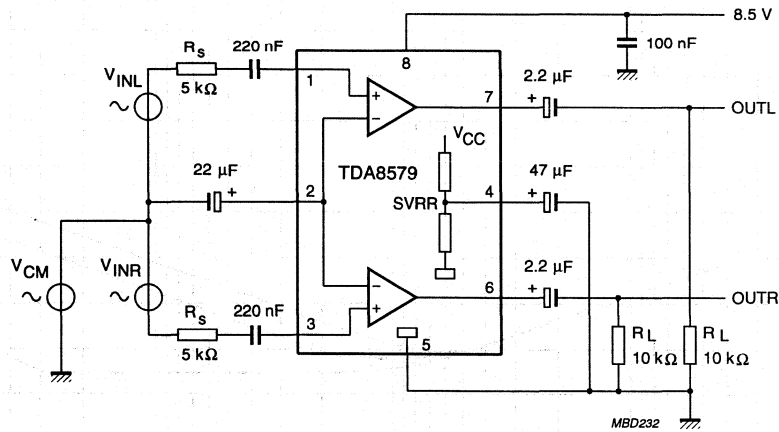

Fig.3 Test and application circuit.
4. The common-mode rejection ratio is measured at the output with a voltage source of 1 V (RMS) in accordance with the test circuit (see Fig.3) while V_{INL} and V_{INR} are shorted-circuited. Frequencies between 100 Hz and 100 kHz.